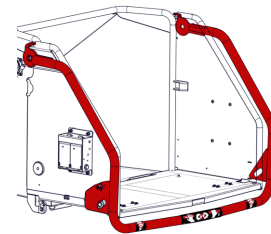

Figure 15 - Red Safety Bar
5. Press the Red Safety Bar (Figure 15).